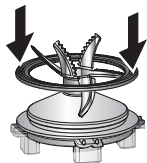

fig. 2
- Place the assembly **(e1+e2)** on the base of the jug **(e3)**. Lock it by rotating the blade unit through a quarter turn in an anticlockwise direction **(Fig.2)**.